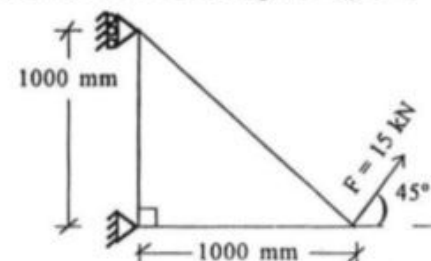

Fig. Q. 8
8. For the truss shown in figure Q. 8: